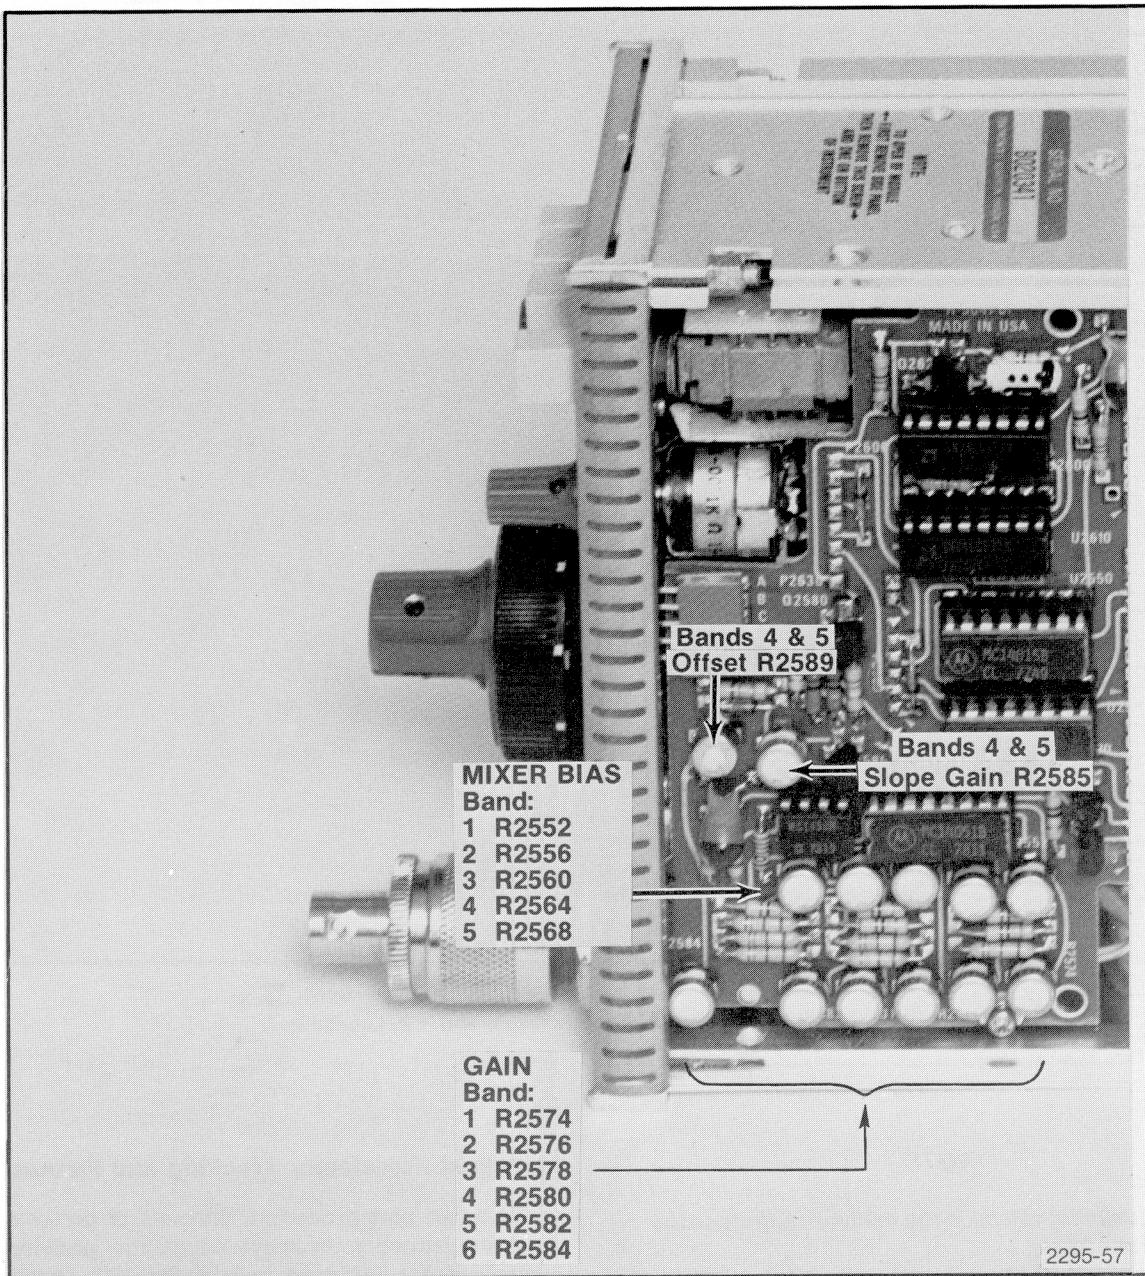

Fig. 4-49. Vertical Microcomputer Interface Adjustment and T.P. Locations.
R2032 (Fig. 4-48). Band 1 through 6 Gain adjustments—R2574, R2576, R2578, R2580, R2582, and R2584 (Fig. 4-49). Mixer Bias adjustments—R2560 and R2568 (see Fig. 4-49).
d. Set the following adjustments fully counterclockwise (see Fig. 4-49):
i. Adjust Band 5 Bias R2568 (see Fig. 4-49) for overall flatness of the comb display. Use the RF Attenuator, if needed, to avoid over-driving the preselector.
j. Switch to Band 4 (6.5 to 12.5 GHz) and adjust Band 4 Offset R1980 (Fig. 4-48) and Bias R2564 (Fig. 4-49) for maximum comb amplitude and flatness. Use the same procedure as that described for Band 5.
p. Adjust R2043 (Band 5 Slope) R1986 (Offset), and R2568 (Mixer Bias), for best overall flatness. If flatness rolls off at the high end, adjust the overall Slope Gain with R2585 (Fig. 4-49). R2585 also affects Band 4 flatness. Slope adjustment R2032 (Fig. 4-48) affects the gain slope or the high end of the frequency range. Mixer bias should be adjusted for best sensitivity at the high end and Offset adjustment R1968 should shift the overall response about the center of the span.
s. Adjust Band 4 Slope R2026, Offset R1980 (Fig. 4-48), and Mixer Bias R2564 (Fig. 4-49), for the best overall flatness using the procedure outlined in p of this step. Since R2585 and R2589 affect flatness for both Bands 4 and 5, it may be necessary to set these for the best compromise between the two.